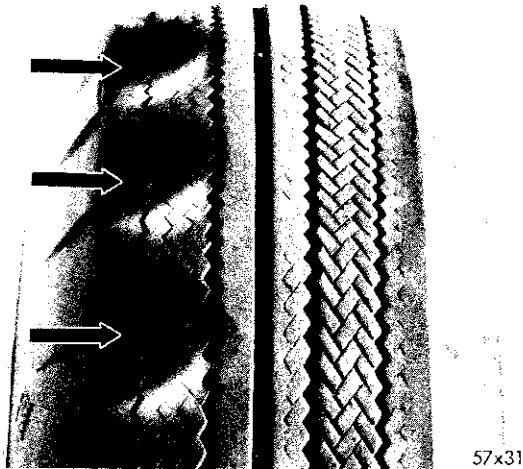

Fig. 10—Spotty Wear
a. Spotty Wear (Fig. 10) usually becomes